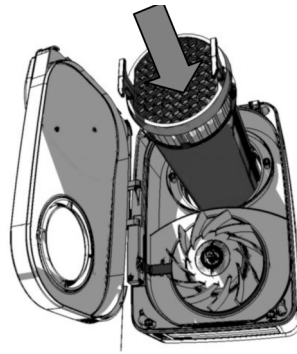

Figure 11.
9. Insert Heat Exchanger through Chassis and into the hole already cut - Figure 11.